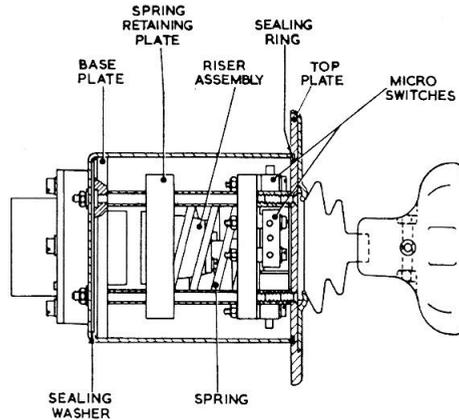

Fig. 2. Sectional view of trim switch
2. A sectional view of the switch is given in fig. 2. It is operated by a hand control knob fastened to a shaft which has a universal coupling on its end. The shaft carries an operating plate, so shaped that movement of the control knob closes the appropriate micro switch, so giving a supply to the appropriate field of the relevant trimming